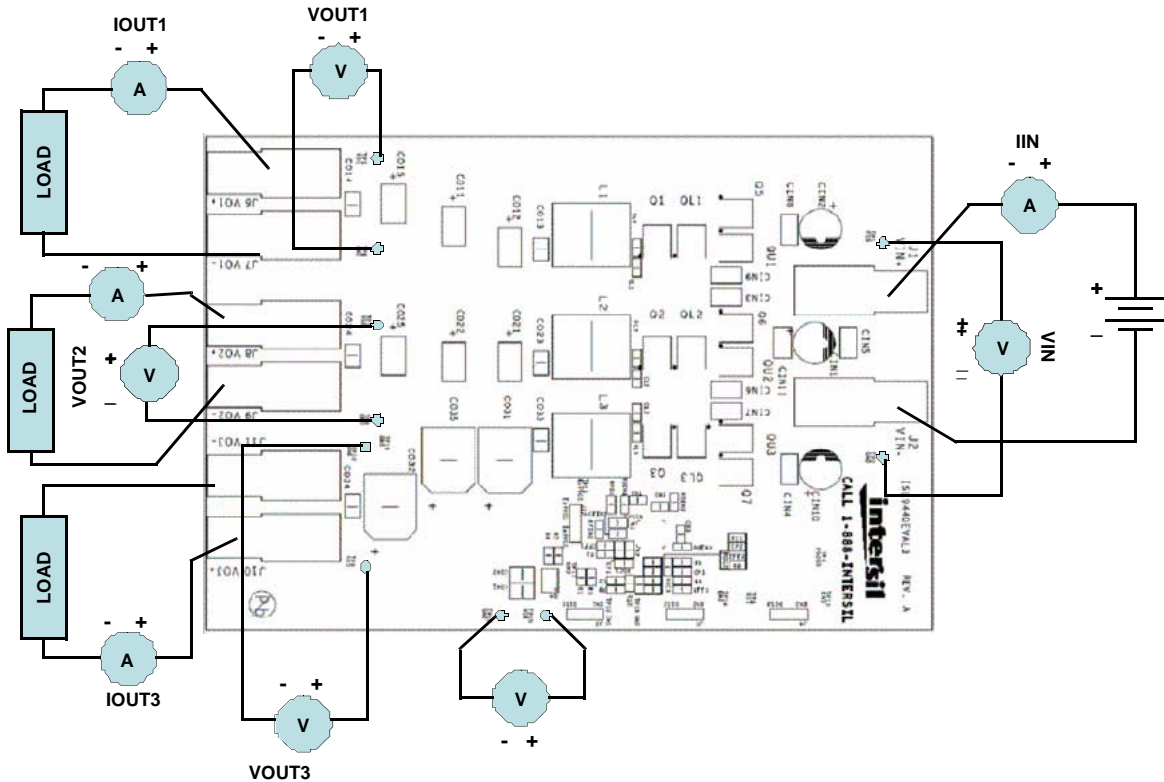

FIGURE 1. PROPER TEST SET-UP
1. Ensure that the circuit is correctly connected to the supply and electronics loads prior to applying any power. Please refer to Figure 1 for proper set-up.